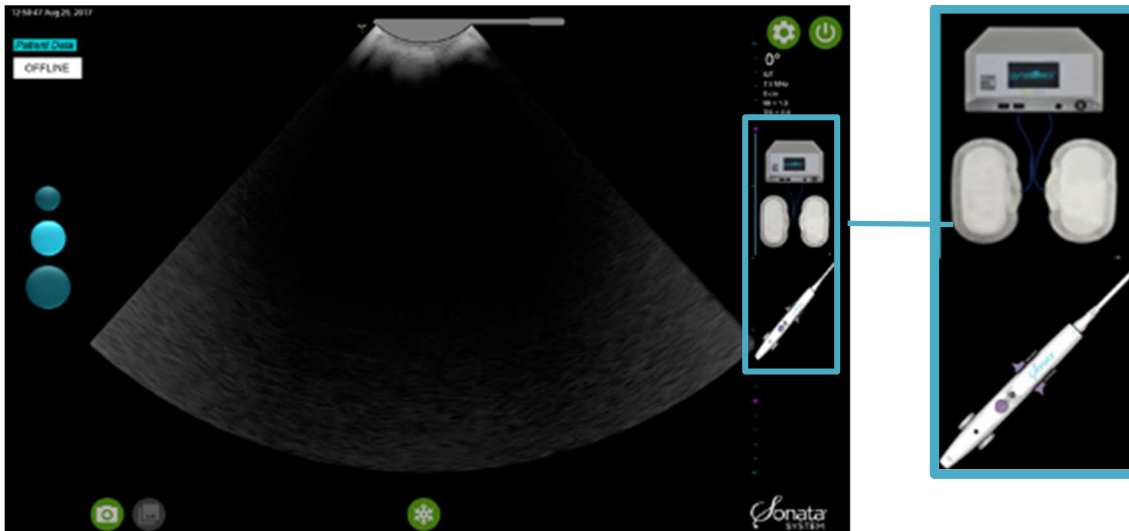

Figure 3-20. Component Connection Indicators (RF Generator, Dispersive Electrodes and RFA Handpiece).
The SMART Tablet display shows three (3) graphical indicators on the right-hand side of the display, see Figure 3-20. The indicators communicate whether the following components have been properly connected: